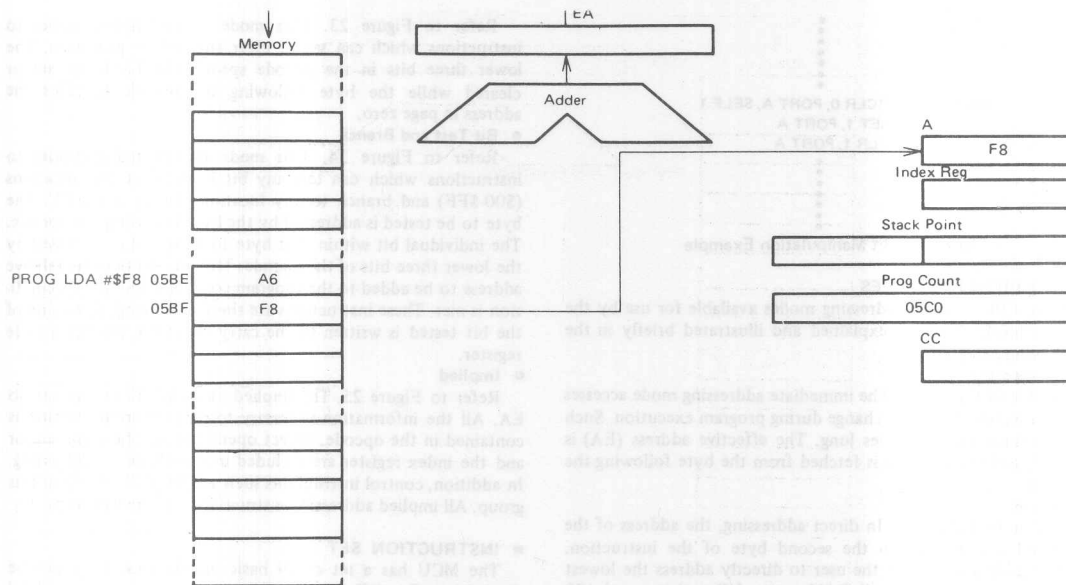

Figure 16 Immediate Addressing Example
Refer to Figure 16. The immediate addressing mode accesses constants which do not change during program execution. Such instructions are two bytes long. The effective address (EA) is the PC and the operand is fetched from the byte following the opcode.